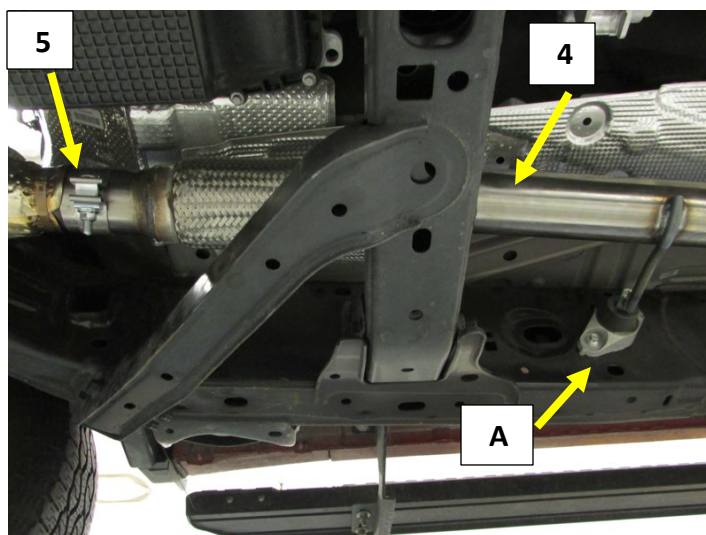

Figure.6
5. Align the hanger assembly (A) onto the frame rail and install the (x2) 10mm bolts. Fig.6 **Support the inlet pipe!**
6. Tighten the 2.5" band clamp (5)